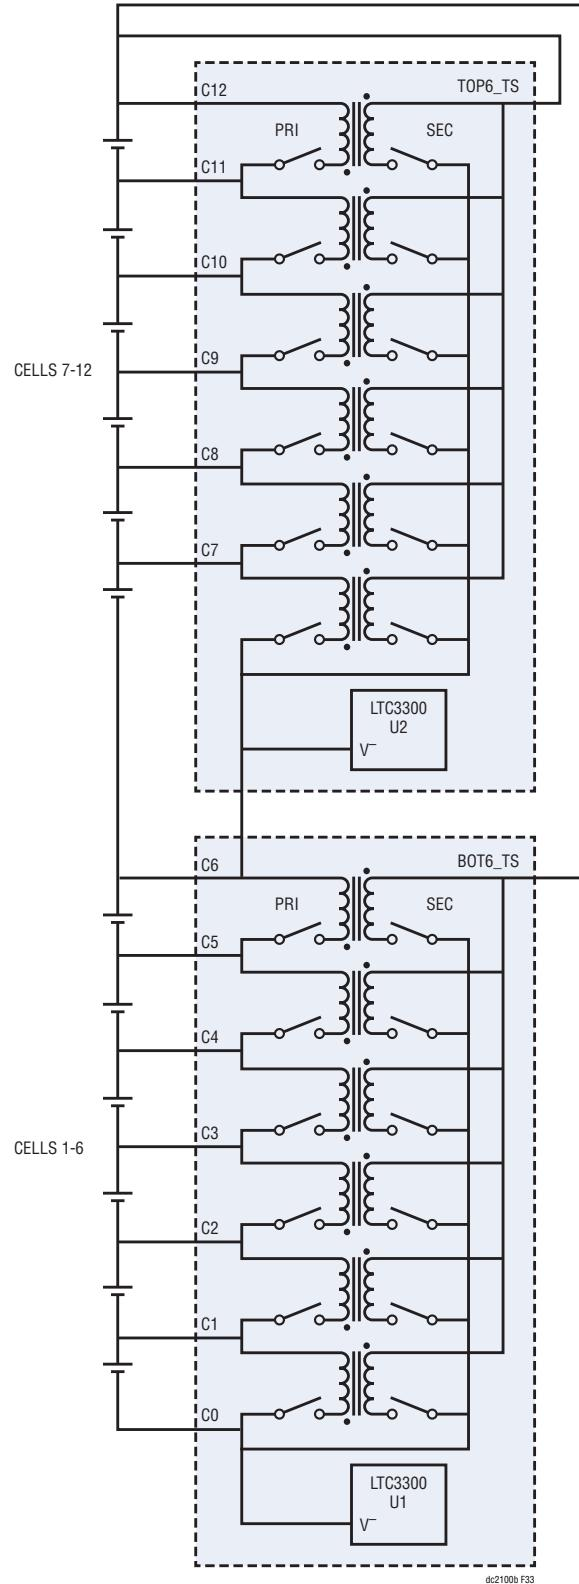

Figure 33. Connection of a DC2100B to a Twelve-Cell Battery Stack
When balancing fewer than twelve cells, one of the set-up configurations shown in Figure 47 through Figure 54 must be employed to ensure an absent cell location is not interpreted as an undervoltage fault by the GUI. For cases with more than seven cells, but fewer than twelve cells, there is a bias towards placing more (or the same number of) cells on the top LTC3300-1 than on the bottom LTC3300-1. To understand this allocation scheme, consider the case of a 12-cell balancer in Figure 33. During balancing, charge is exchanged between individual cells through the primary of a flyback converter to a stack of the same cells through the converter secondary. Within a group of six converters controlled by a single LTC3300, the secondary of the converters are all in parallel. For the lower six converters, the secondary is connected between the bottom of the stack and positive end of cell 12. Thus, during balancing, charge is exchanged between one (or more) of cells 1-6 and the entire stack of 12 cells. However, for the upper six converters the secondary return is connected to C6. Consequently, for the top six cells, balancing exchanges charge between one or more of the top cells and a stack composed of only the top six cells. This constraint drives the system designer towards putting as many cells as possible on the top LTC3300 to maximize the stack size seen by the upper converters. At the same time, the LTC3300 requires at least 9V between C6 and V⁻ for proper operation. Practically speaking, this sets a three-cell minimum for each LTC3300.
5. GRAPH VIEW WINDOW – FIGURE 33